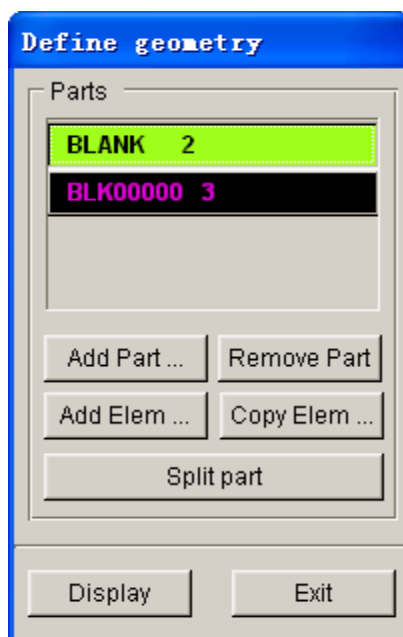

Figure 5.31 Blank geometry list
5. Click **OK** button to complete the **Split part** operation. The selected elements are copied to a new part named **BLK00000**. The part is automatically included in the blank geometry list illustrated in Figure 5.31.